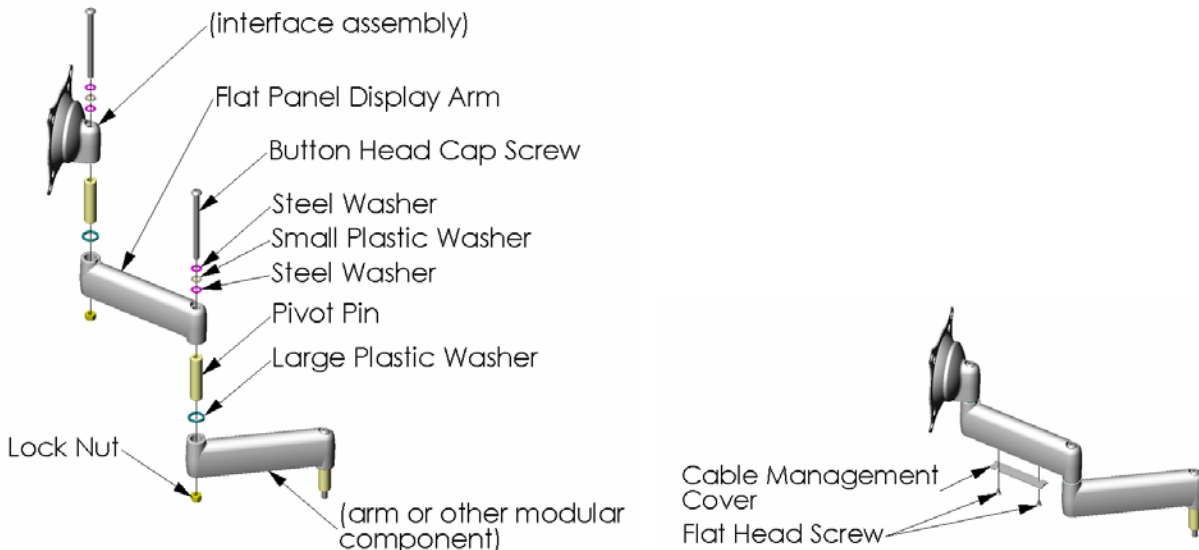

Figure 2
2. Install the components at each pivot in the order shown in Figure 2.